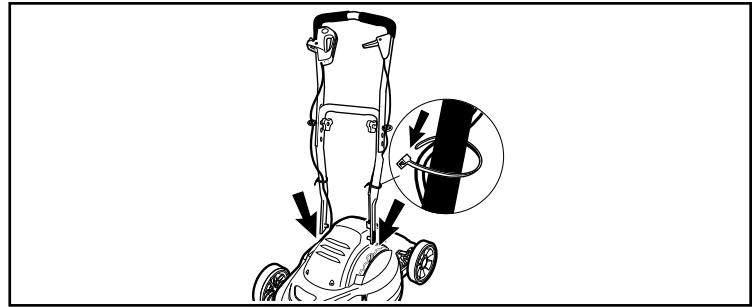

FIGURE 2B
### ATTACHING THE HANDLE (FIGURE 2B)
3. Align the ends of the lower handle vertically over the flip bracket installation slots **with the power cord on the same side as the discharge area.** (Figure 2B)